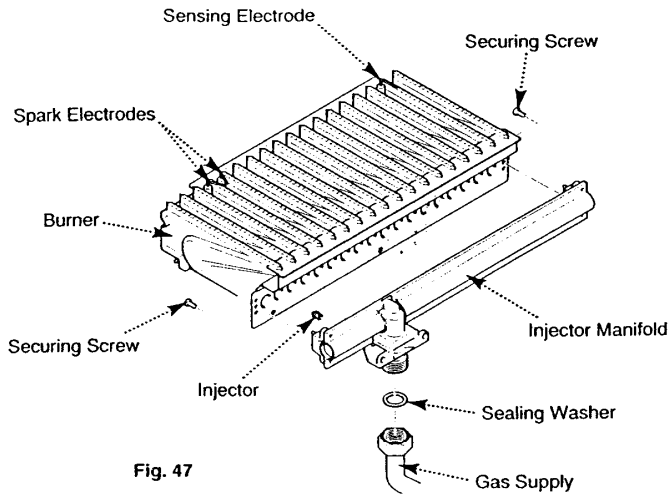

Fig. 47
18. Undo the screws securing the injector manifold to the burner assembly and remove the manifold. Examine the injectors for blockage, cleaning as necessary. Do not use hard tools, such as pins or wire (Fig. 47).